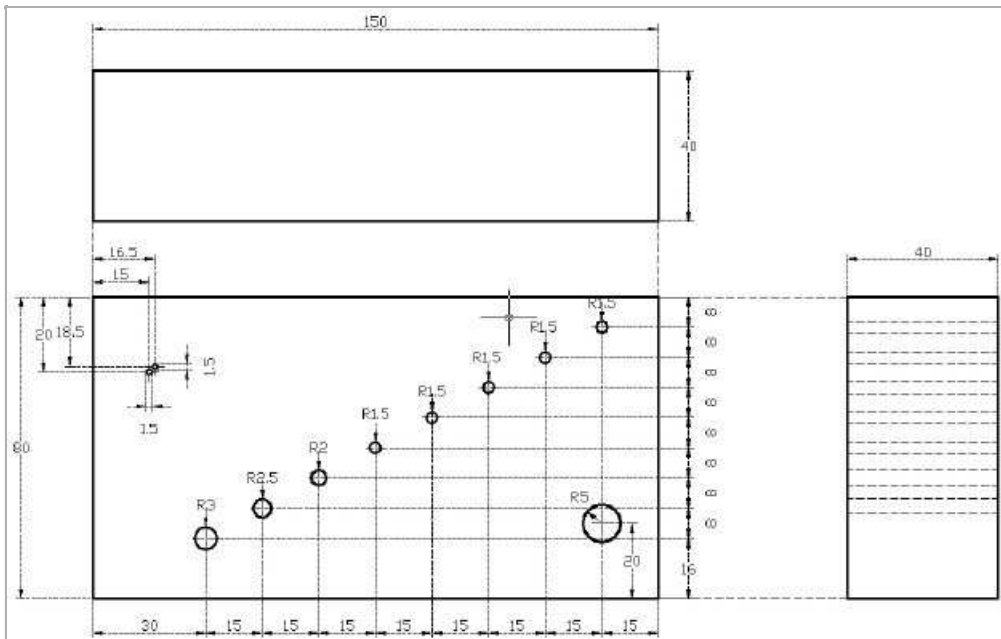

Fig. 8: Engineering drawing of the test block
- Measure the size of the test block (BS) with the calliper. While measuring, apply only gentle pressure to avoid scratches on the acrylic block.
- The "measure ultraecho software" program shows the reflected wave as a peak. Adjust the transmitter and receiver amplifier settings until the peak height maximum covers at least 75% of the window height. The amplifier settings are displayed in figure 8.